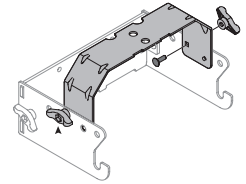

Figure 5
2. Flip over assembly and mount hitch support bracket to universal support bracket (783-08129) using two carriage bolts (710-0276) and wing knobs (720-04122) from hardware pack 689-02364, as shown in Figure 5.